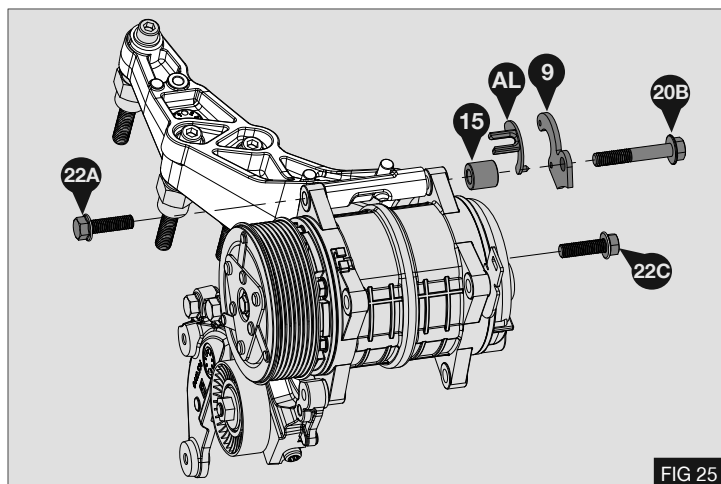

FIG 25
4. Secure the compressor using 2x M10x35 (22) bolts and 1x bolt M10x60 (20).
5. Attach fuel valve holder (AL) to bracket (9) and use spacer (15).
6. Attach the fuel return valve to its holder and Torque 3x M10 bolts to 58 Nm / 43lb. ft. in the following sequence: - Fig 25
- 1 - (22) A
- 2 - (20) B
- 3 - (22) C